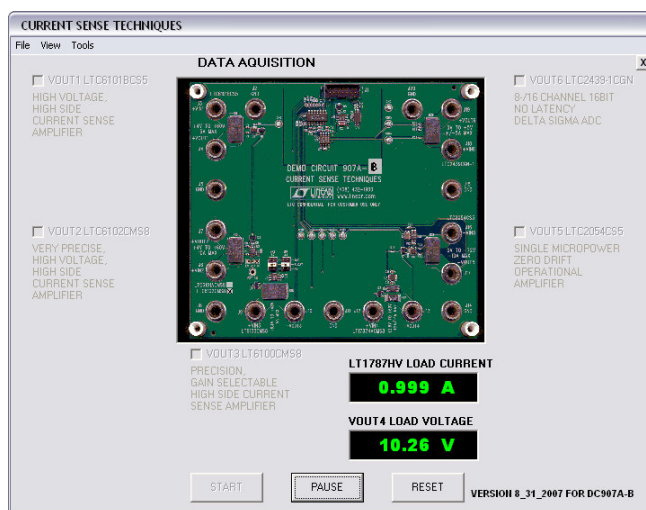

Figure 10. LT1787 IsenseB.exe display (Current and Voltage at +VOUT4)
4. Mouse-click a check in the VOUT4 LT1787HVCMS8 enable box and then mouse-click the START box to begin data-acquisition. The display will then show, as in Figure 10, a continuously updated current and voltage as furnished to the load connections. To suspend updating, mouse-click the PAUSE box. The RESET box returns the program to the initial setup state. A red readout represents an out-of-range result or condition that may be beyond safe limits. A yellow readout is acceptable, but indicates being near a limit. Green readouts are well within nominal conditions.